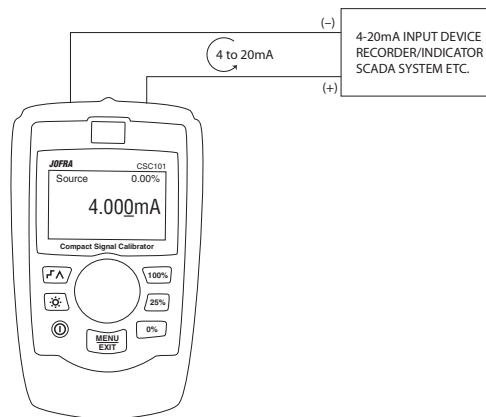

Figure 2
Figure 2 shows how to connect the CSC101 to source current.
1. Set the CSC101 to source or simulate current. See figures 2 & 3.